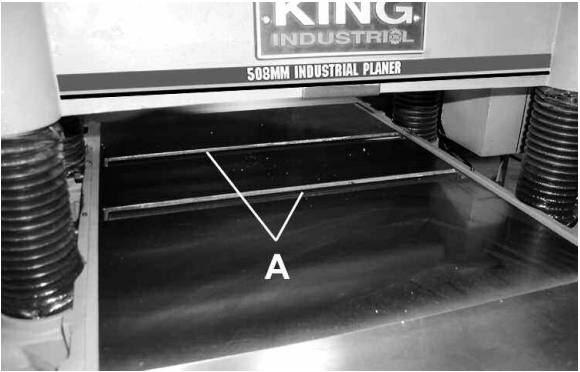

FIGURE 9
Your planer is supplied with two table rollers (A) Fig.9, which aid in feeding the stock by reducing friction and turn as the stock is fed through the planer. It is not possible to give exact dimensions on the proper height setting of the table rollers because each type of wood behaves differently.